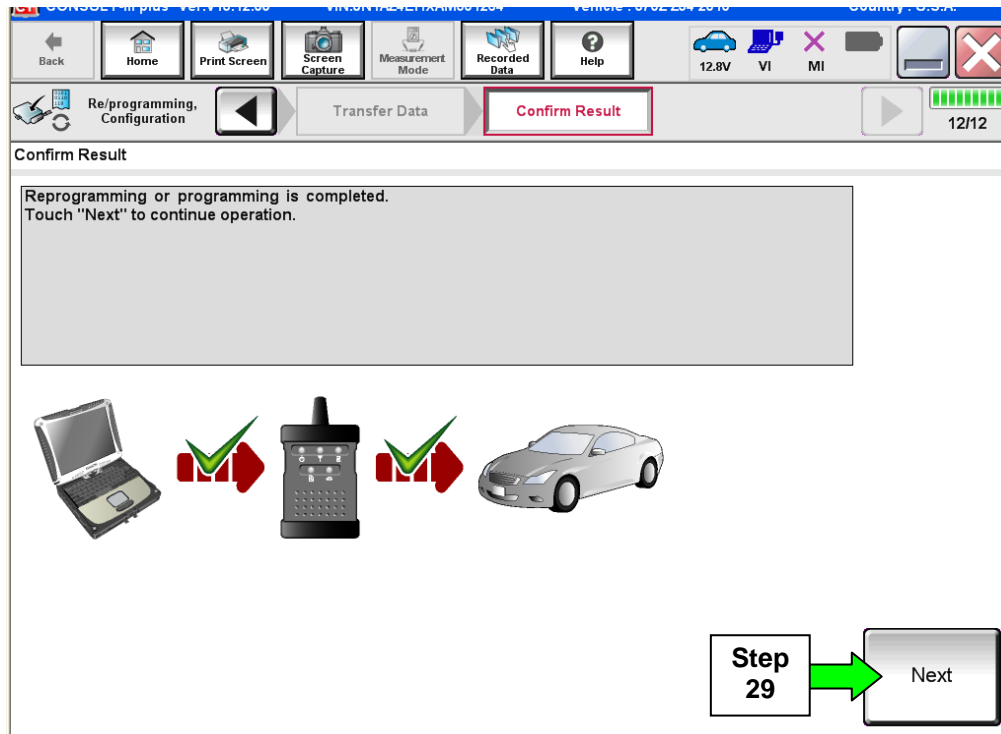

Figure 18a
27. When the screen in Figure 18a displays, programming is complete.
NOTE: If the screen in Figure 18a does not display (programming does not complete), refer to the information on the next page.